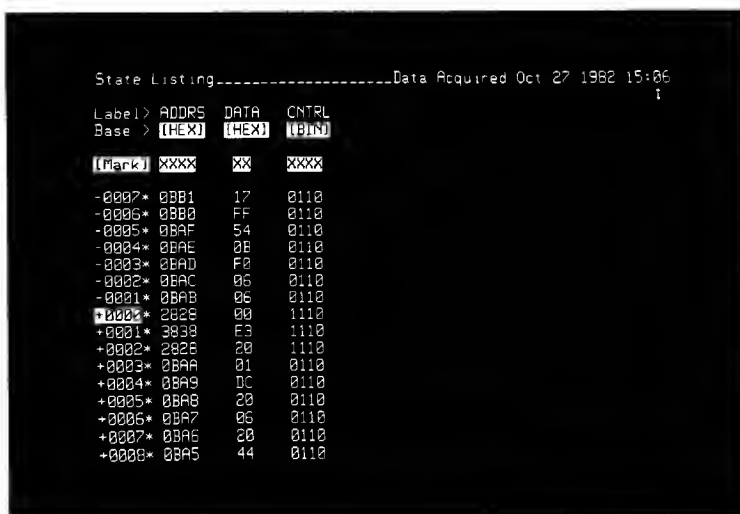

Figure 3-9. Trace List With Trigger At Center
12. Press the RUN key. The analyzer will begin storing states into memory. When it finds the state you specified as trigger, it will capture that state and then store an additional number of states equal to one-half of the memory. The states that were captured before trigger will be identified on the list with line numbers preceded by minus signs. The states captured after the trigger state will be identified by line numbers preceded by plus signs. See figure 3-9.